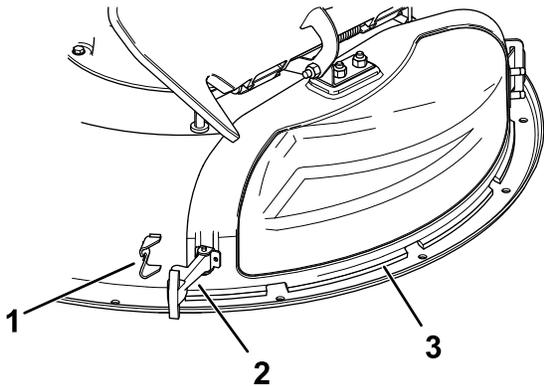

Figure 11
3. Release the flexible latch from the latch retainer on the discharge cover and pivot the discharge cover to the right (Figure 11).
- Secure the discharge cover to the deck by hooking the flexible latch on the discharge cover into the retainer on the deck (Figure 11).